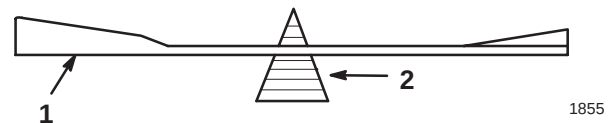

Figure 26
2. Check the balance of the blade by putting it on a blade balancer (Fig. 26). If the blade stays in a horizontal position, the blade is balanced and can be used. If the blade is not balanced, file some metal off of the back side of the blade. Repeat this procedure until the blade is balanced.